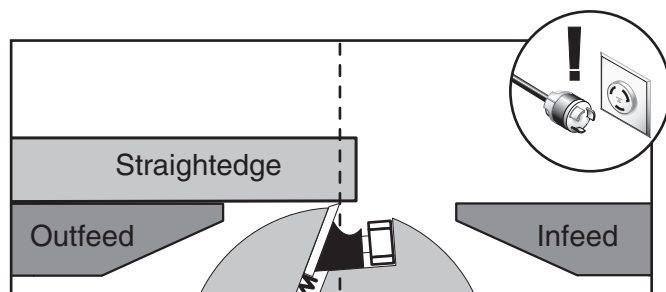

Figure 12. Using a straightedge to align outfeed table height with knife at TDC.
4. Raise or lower the outfeed table until the knife (or carbide insert) just touches the straightedge (**Figure 12**).